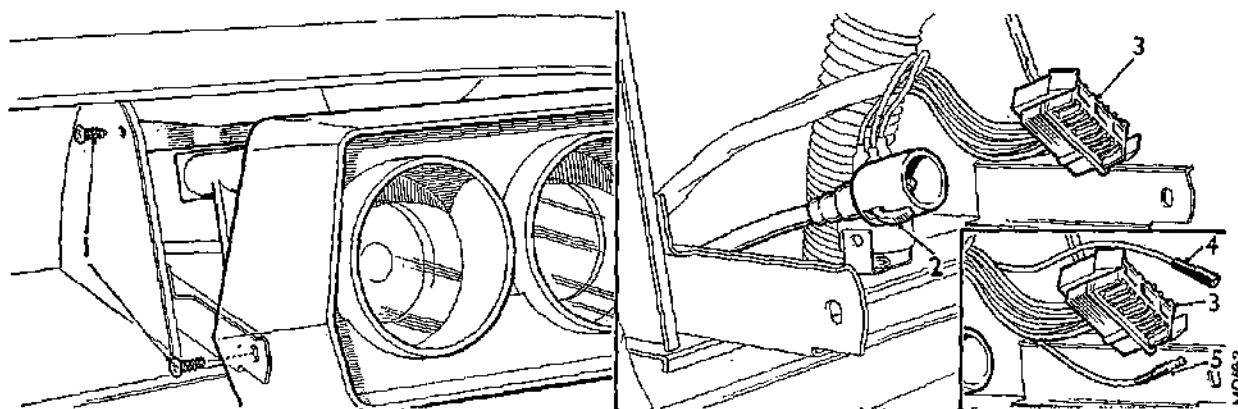

Fig. Nb.1
- (1) Disconnect the battery earth cable (NEGATIVE).
- (2) Remove the air ventilation louvre adjacent to the instrument panel (see Section Rb.4).
- (3) Release the portion of the door seal securing the fascia trim liner, withdraw the liner from behind the side of the panel and remove it.
- (4) Release the trim liner on the other side of the instrument panel in a similar manner but do not remove it; the instrument panel securing screws are now accessible (see Fig. Nb.1).
- (5) Remove the four securing screws (1) and partially withdraw the panel; press in the release lever (2) on the speedometer cable and pull the cable out of the instrument. Pull out the multi-plug wiring connector (3) from the rear of the panel and remove the assembly (see Fig. Nb.1).
1275 GT. In addition to the above instructions also disconnect the tachometer connections (4) and (5) (see Fig. Nb.1).